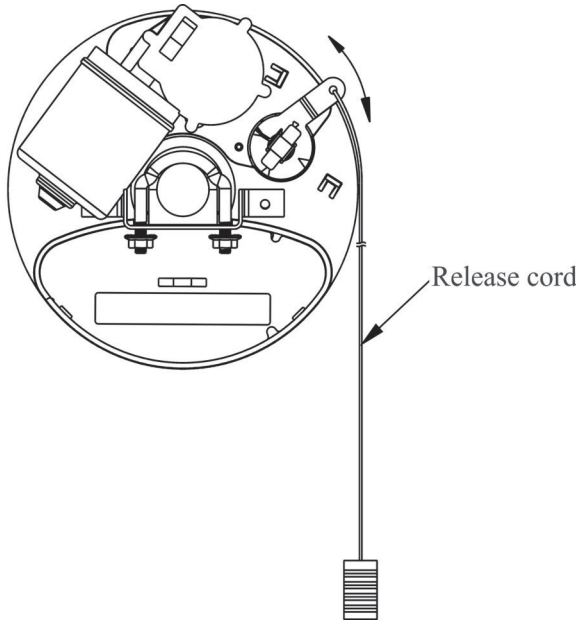

Fig 11
- 2.7 If not already disengaged, disengage the RDO II Drive Unit by pulling once on the release lever (Fig.11) - the forked drive gear should now rotate freely
- 4.1 To disengage the Drive Unit from the garage door pull down on the Red Release Cord. (Fig.11)